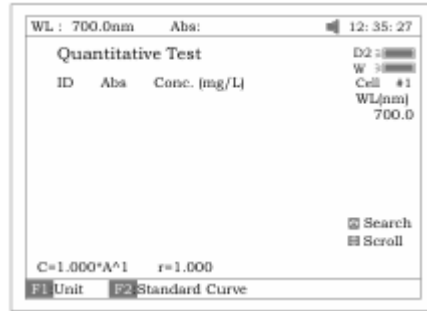
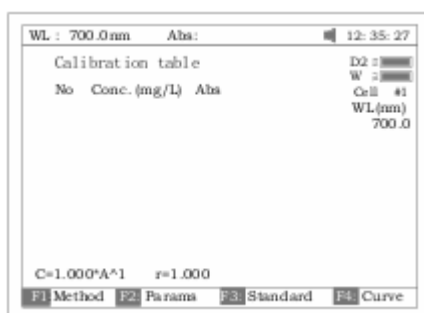
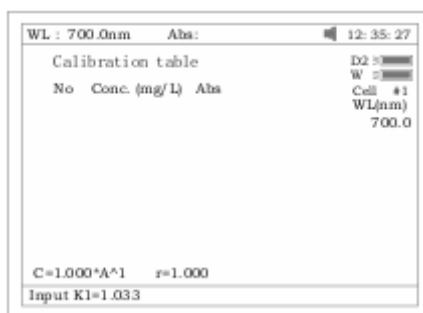

Fig.26
Fig.29
Fig.29A
Press **【2】** in Main Menu for the “Quantitative” Test (Fig 26). Press **【ESC/STOP】** to exit.
Note: If no automatic changer is installed “cell #1” will disappear in Fig26.
3. Press **【F2】** in Fig 26 for more items to select. See Fig 29.
3.1 Press **【F1】** in Fig 29 to select the fitting method. There are 4 methods for you to choose from: Linear fit, linear fit through zero, square fit and cubic fit.
3.2 Press **【F2】** in Fig 29 to enter directly a known standard curve. Fig29A.
3.3. Press **【F3】** in Fig 29 to establish a standard curve by measuring a group of standard samples. See Fig 30.
See 3.2. For Fig 29 enter a known standard curve directly.
Note: All sample results must be taken in screen Fig26.